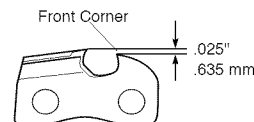

Figure 17 - Round Off Front Corner Of Depth Gauge
3. Remove depth gauge tool. With flat file, round off front corner of cutter depth gauge (see Figure 17).